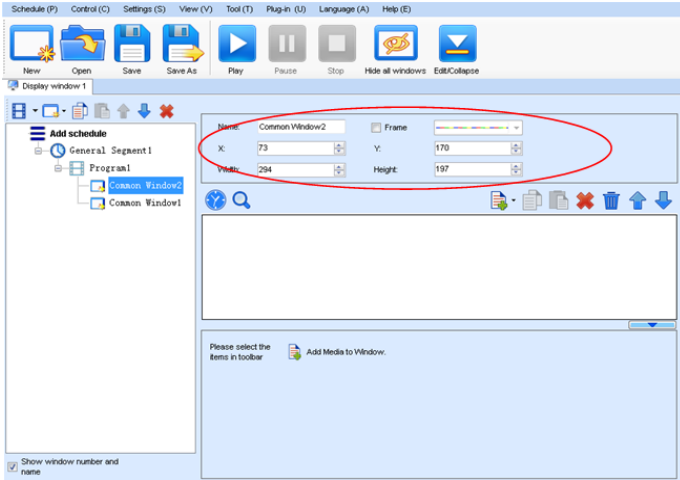

Fig 4-13 Setting the Window Size
- a) Directly specify the new location and size in the setting pane, as shown in Fig 4-13: